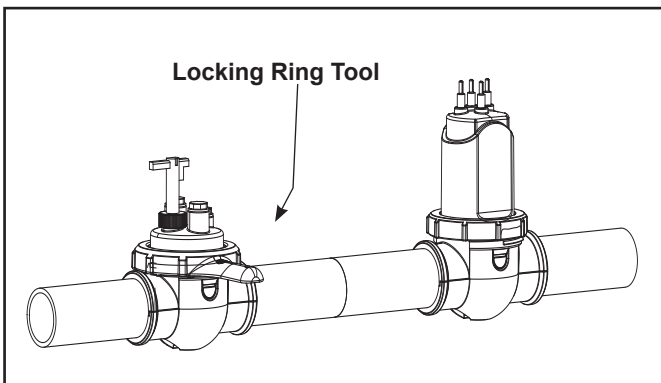

Figure 5. Locking Ring Tool
8. Screw down the locking ring to the threaded clamp using the locking ring tool (see Figure 5).